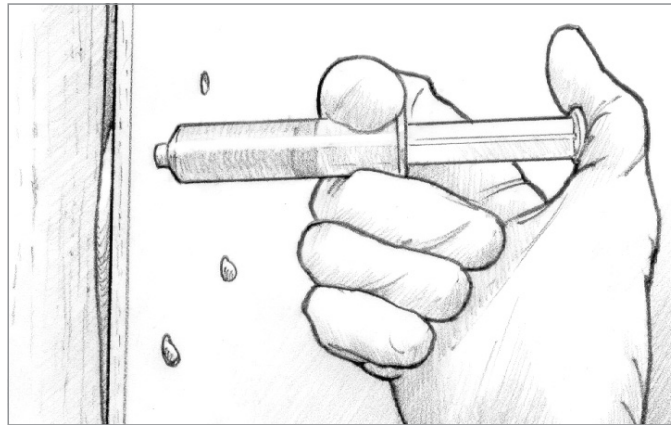

Figure 4-9 Inject the epoxy mixture until it reaches the surrounding holes.
3. Inject the mixture into the void through the pattern holes. Force the syringe tip into the lowest pattern hole and inject the mixture until it reaches and begins to ooze from the surrounding holes (Figure 4-9).